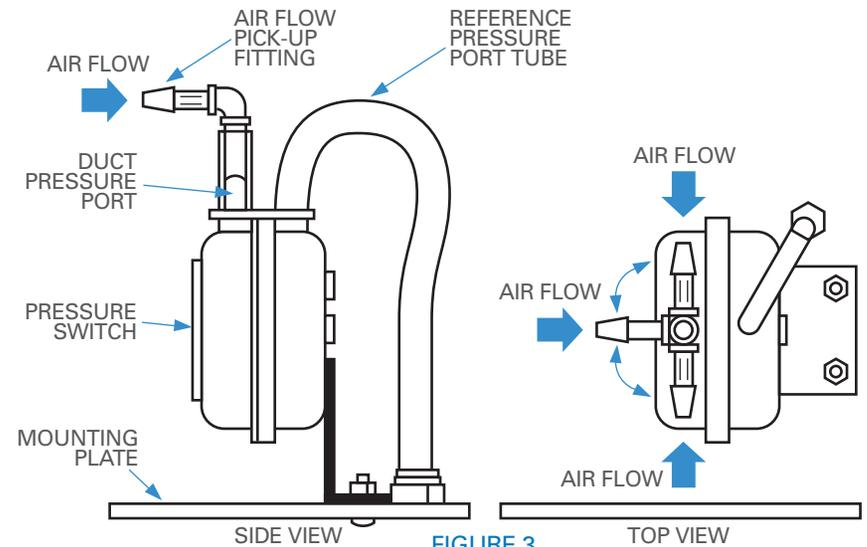

FIGURE 3
- b. Mount the supplied AIR FLOW PICK-UP FITTING on to the Duct Pressure Port on the pressure switch located on the back of the plate. Ensure that the airflow pick-up fitting is installed so that the air flows into the fitting opening. See Figure 3 below.